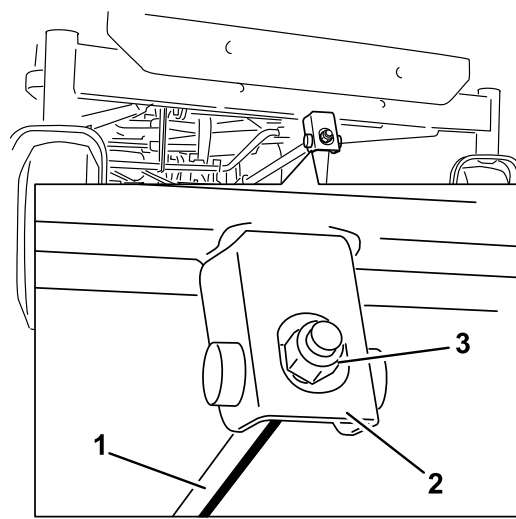

Figure 64
6. To adjust the front-to-rear blade slope, rotate the adjustment nut in the front of the mower (Figure 64).